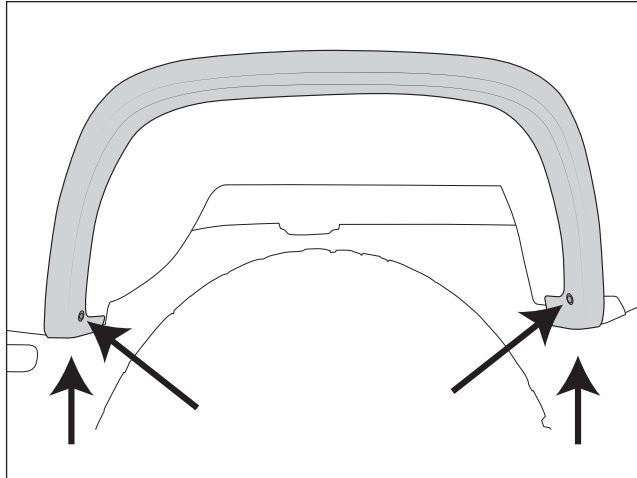

Figure 9
1. Remove M4 torx bolts from inside lower wheel wells, M4 torx bolt from underneath front side of flare, and Push Pin from underneath rear side (fig. 9).